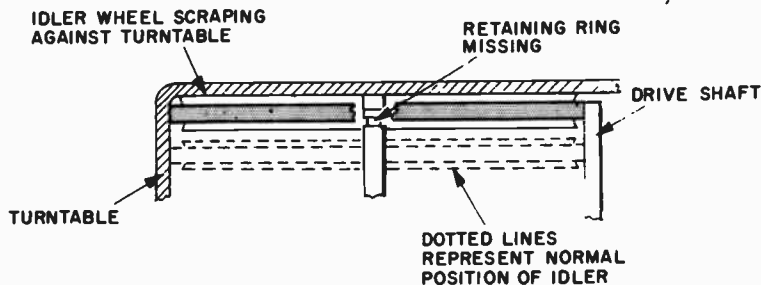

Fig. 320. If the retaining ring is missing, the idler wheel will rise and rub against the turntable.
3. The retaining ring or clip should be present at the top of the shaft. This ring or clip prevents the wheel from rising as it rotates. If it is missing, the wheel will rise and scrape the underside of the turntable, as shown in Fig. 320.